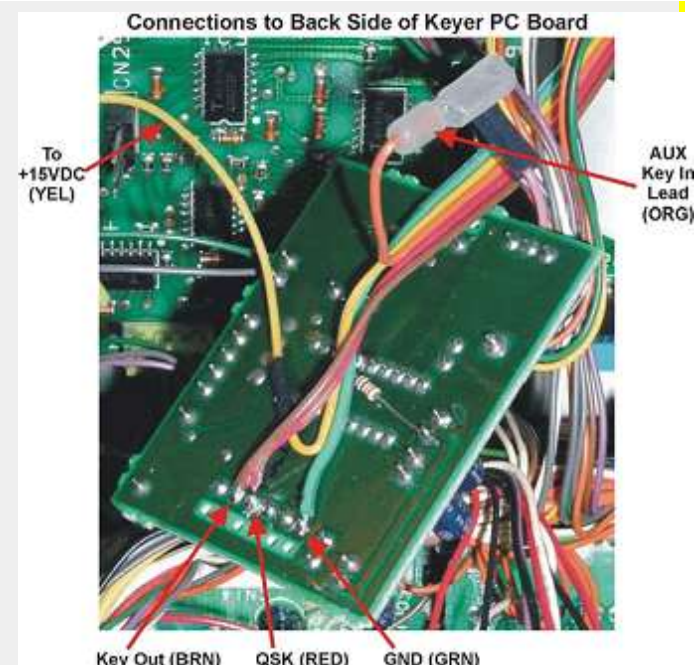

Figure 5
19. Refer to Figure 5. At the bottom of the keyer PC board, there are six (6) pads, each immediately above a matching hole (for the